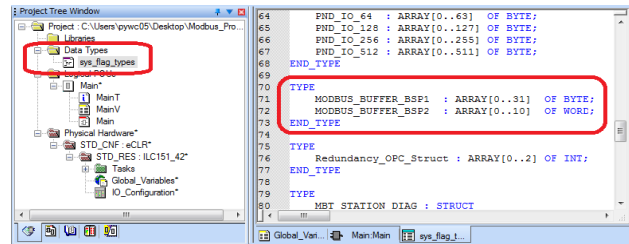

Figure 14 Creating data types
- Define the desired data types and their size as shown in Figure 14.